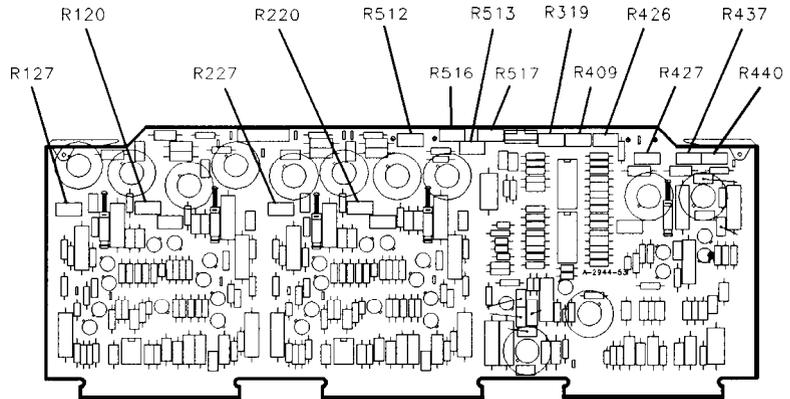

Figure 3-32. Location of Final Display Adjustments on A1A2
3. With the spectrum analyzer's LINE switch set to STANDBY, set the potentiometers listed in the Table 3-6 as indicated. See Figure 3-32 for the location of the adjustments.
5. Set the front panel INTENSITY control fully counterclockwise and adjust A1A2R516 INT LIM until the display is just visible. See Figure 3-32.